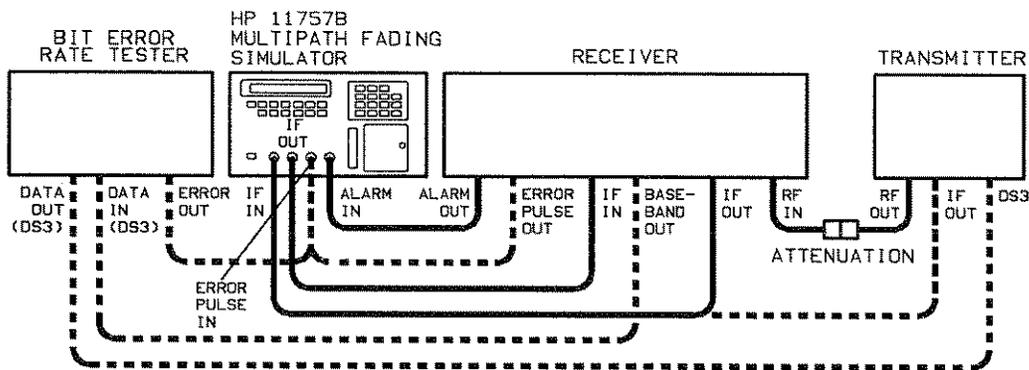

Figure 1-7. Bit Error Rate Test Setup
1. Connect the Fader, Digital Radio, and BERT if used as shown in figure 1-7.